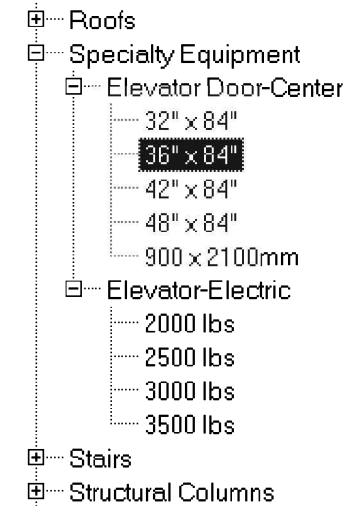

FIGURE 3-4.9 Elevator doors in Project Browser
22. Drag the **36" x 84"** elevator door type from the project browser into the first floor plan (Figure 3-4.9).